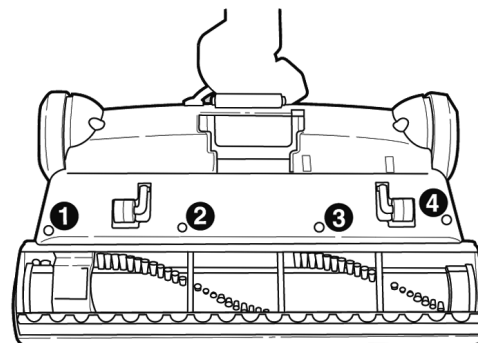

Figure 6
2. Remove the four screws marked by numbers 1, 2, 3, 4. (see figure 6)